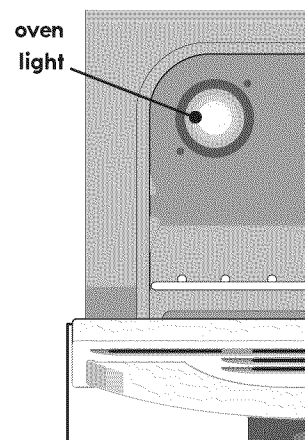

Fig. 2
2. Replace bulb with a new 40 watt appliance bulb (See Fig. 2).
2. Remove 2 screws located on the inside of the oven door liner (See A Fig. 2).
3. Insert the 2 screws into the door hinge holes located on the side of the hinge arm, one into each hinge (See B Fig. 2).
5. Reinstall the 2 screws into the door liner (See C Fig. 2).